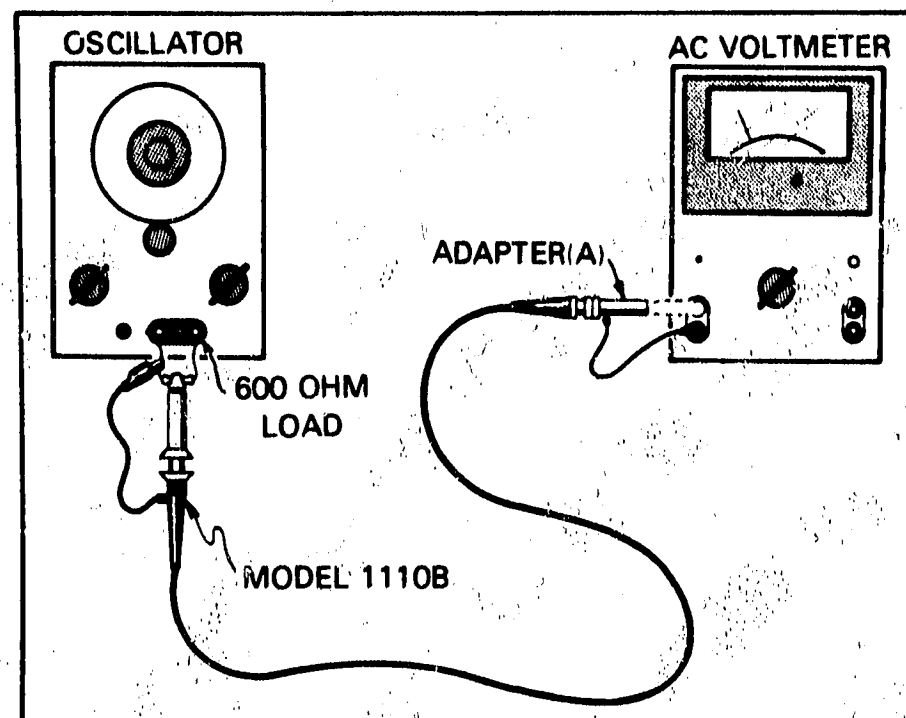

Figure 4. Accuracy and Low-Frequency Limit Test Setup
27. The following procedure is used to check the accuracy of the current/voltage conversion factor. Set up the test equipment as indicated in Figure 4.
29. Low Frequency Limit. Set up test equipment for this test as indicated in Figure 4.